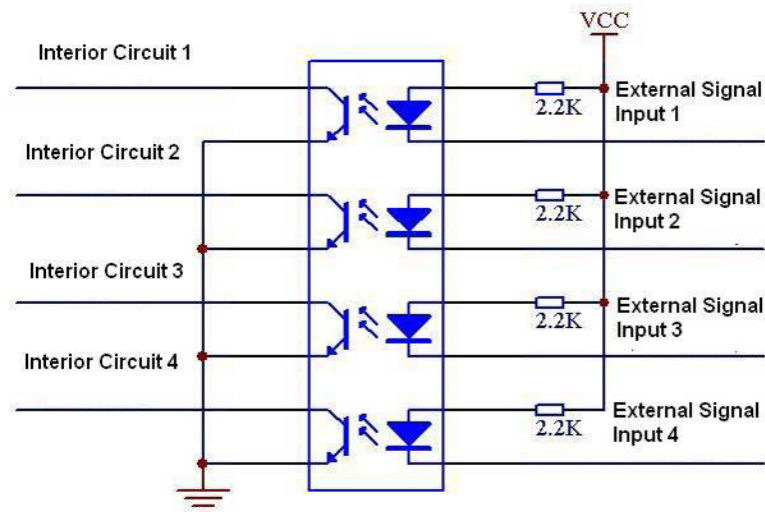

Figure 3-9
- The controllable +12v can be used to restore the smoke detector. Please refer to Figure 3-9 for alarm input module information.